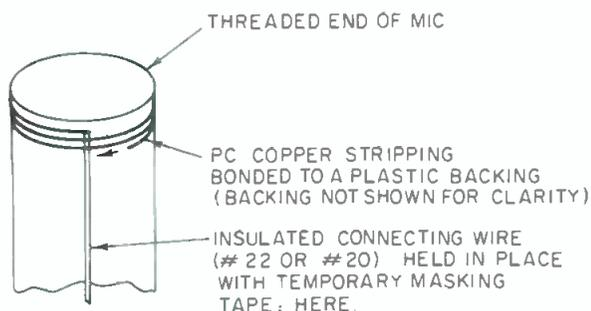

Figure 1. PC copper stripping applied to the microphone shell.
5. Remove only an inch of backing from the plastic, exposing some of the adhesive, then stick it to the end of the microphone shell. (See FIGURE 1) You are beginning what is to become a fine-pitched spiral of copper ribbon that will go around the preamp cylinder, from the capsule end to less than an inch below this.